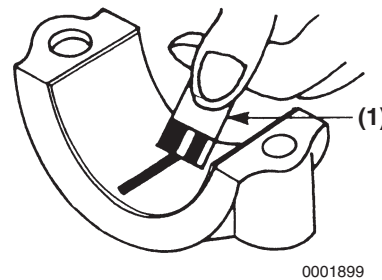

Figure 6-109
- (e) Compare the width of the flattened PLASTIGAGE to the graduation marks on the package (**Figure 6-109, (1)**). The mark that most closely matches the width of the flattened PLASTIGAGE will indicate the bearing oil clearance.